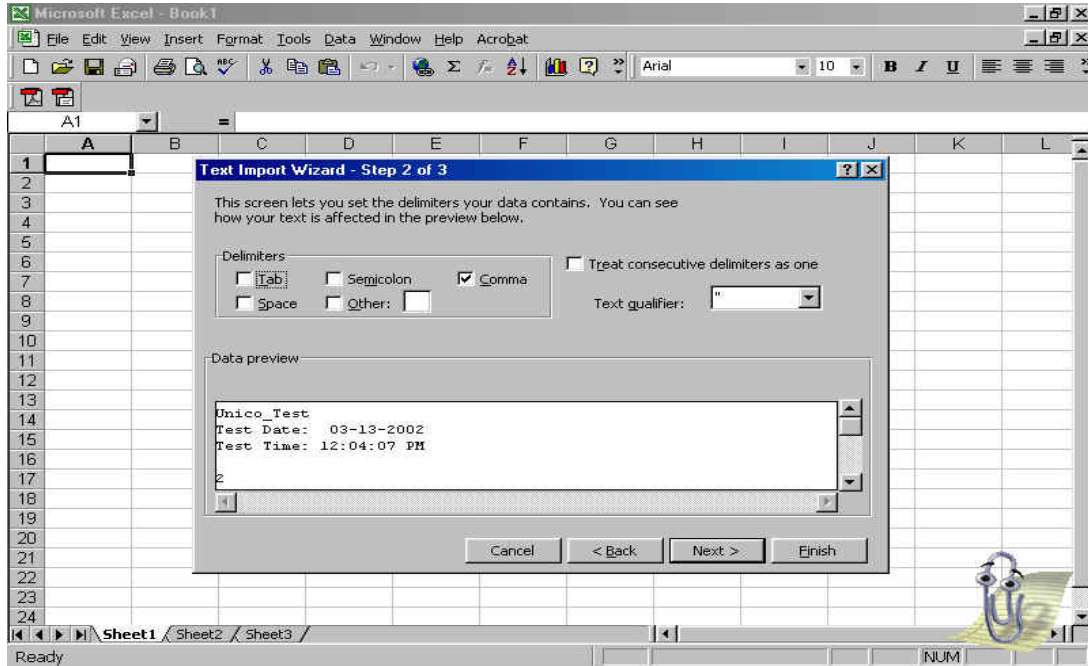

Figure-34 Excel Text
Step 4: Uncheck the **Tab** delimiter and select **Comma** delimiter as shown in Figure-34, then click the **Next** button.